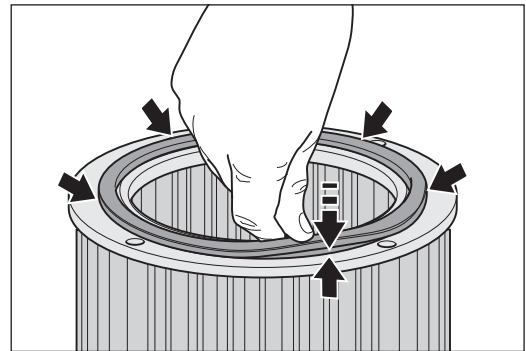

Fig. 70 Make sure the seal sits properly in the filter cartridge before replacing it in the dust separator.
- 1 Before you insert the filter cartridge, make sure the rubber seals are in the groove on the filter cartridge (fig. 70).